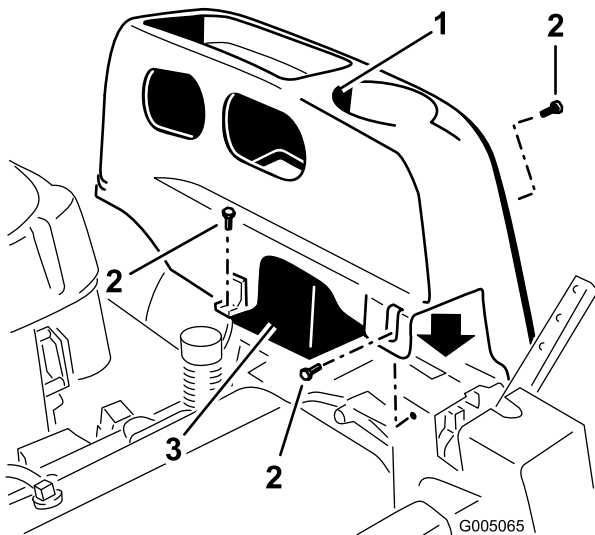

Figure 20
2. Remove the TORX® head fasteners (25) securing the left cover to the frame as shown in Figure 20.